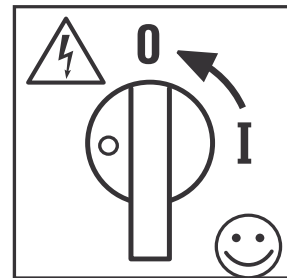

Fig.: 9
1. Place motor and pump horizontally and level (fig.9, See Pg 7).